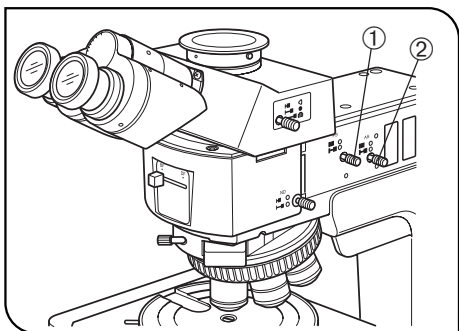

Fig. 10
## 2 Controlling the Field Iris Diaphragm (FS) (Fig. 10)
### 3 Controlling the Aperture Iris Diaphragm (AS) (Figs. 10 & 11)